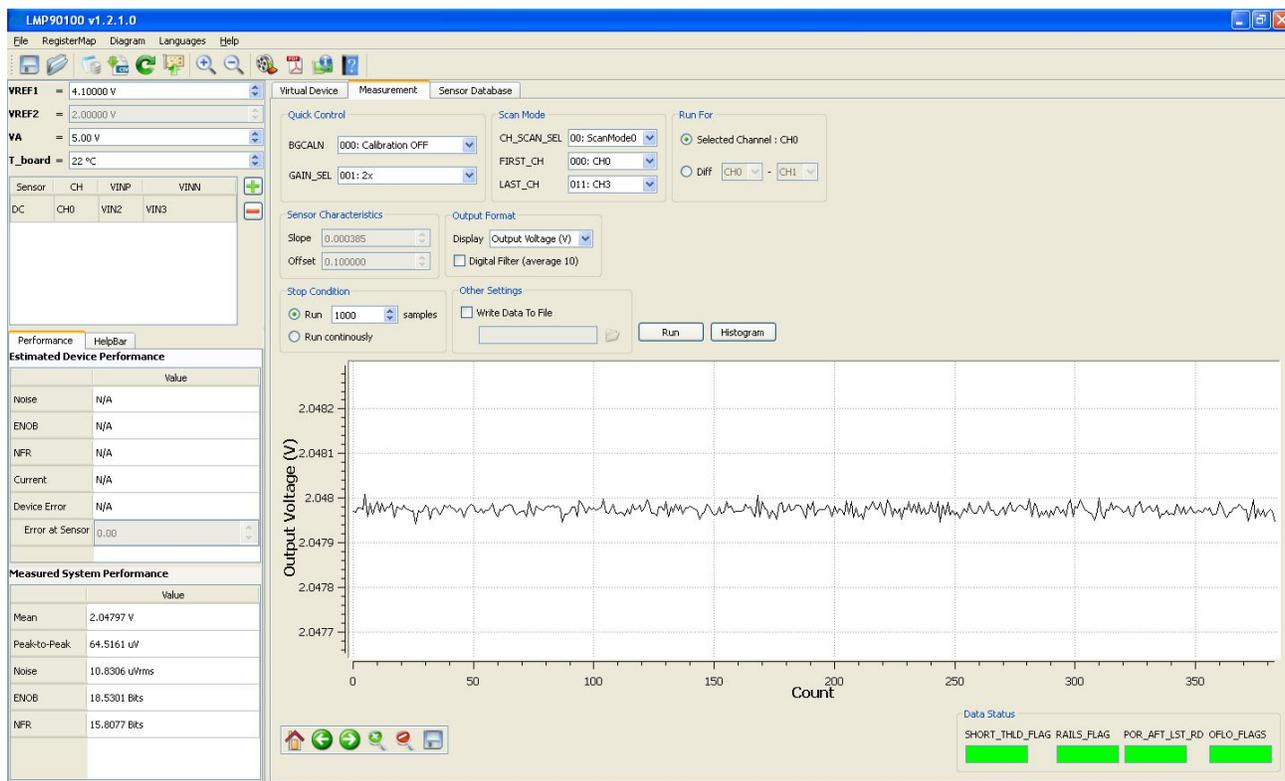

Figure 7 - Results for Example #1 - DC Reading
2. Under the “Output Format” field, select Display as “Output Voltage (V)”
4. Click on the “Run” button to view the output voltage results. A reading of approximately  $\frac{1}{2}(V_{REF1})$  should be plotted as seen in Figure 7.